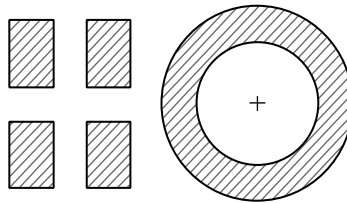
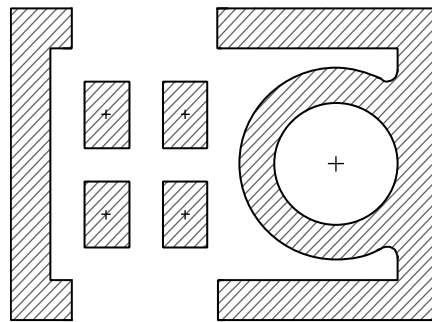

Figure 18. Example PCB Land Pattern with No Enclosing Rectangle
Figure 19. Example PCB Land Pattern with Broken Enclosing Rectangle
The standard PCB land pattern of the INMP621 has a solid rectangle around the edge of the footprint that can make routing the microphone signals more difficult in some board designs. This rectangle is used to improve the radio frequency (RF) immunity performance of the INMP621; however, it is not necessary to have this full rectangle connected for electrical functionality. If a design can tolerate reduced RF immunity, this rectangle can either be broken or removed completely from the PCB footprint. Figure 18 shows an example PCB land pattern with no enclosing rectangle around the edge of the part, and Figure 19 shows an example PCB land pattern with the rectangle broken on two sides so that the inner pads can be more easily routed on the PCB.